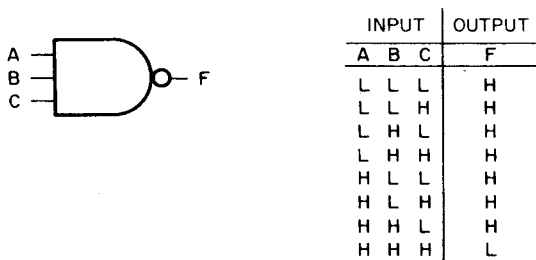

Figure 8-3 Symbol, NAND Function
- a. **NAND**—The symbol in Figure 8-3 represents the NAND function. The output (F) is low only when all inputs (A, B, and C) are high. NAND logic is the major gate configuration in the PDP-8 family.
(A, B, or C) are low. The NOR version for this function is identical to one version of the NAND function shown in Figure 8-3.